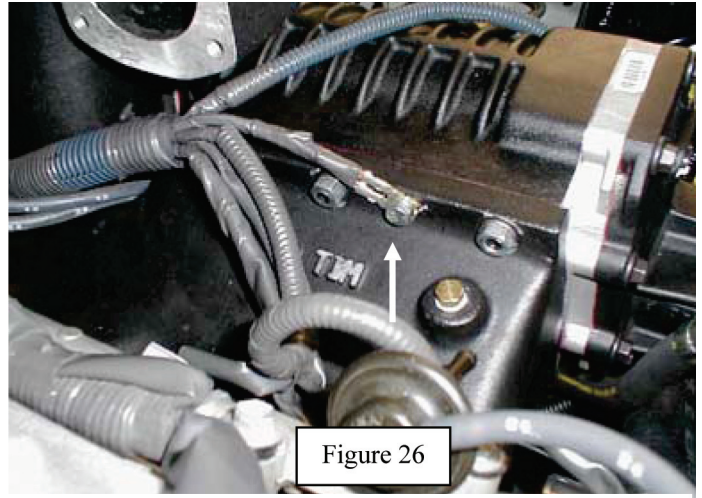

Figure 26
- 53. Attach injector wiring ground strap removed in Step 23 to the supercharger intake manifold using the supplied 6mm hex bolt and washer. Clean wires and the connection location before installing. See Figure 26. Torque: 6 ft-lbs